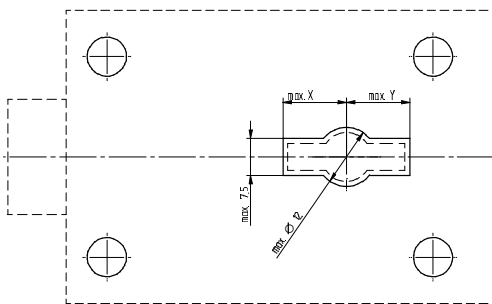

Fig. 3: Max. cross sectional area of keyhole
- In cases where the Kaba Mauer key guide or key carrier guide are not used, the maximum cross sectional area of the keyhole in the door of the secure storage unit and/or the lock armour plating may not exceed the dimensions given in Fig. 3 considering DIN 2768-mH. All dimensions deviating from these specifications are to be coordinated separately with the certification bodies (test houses).